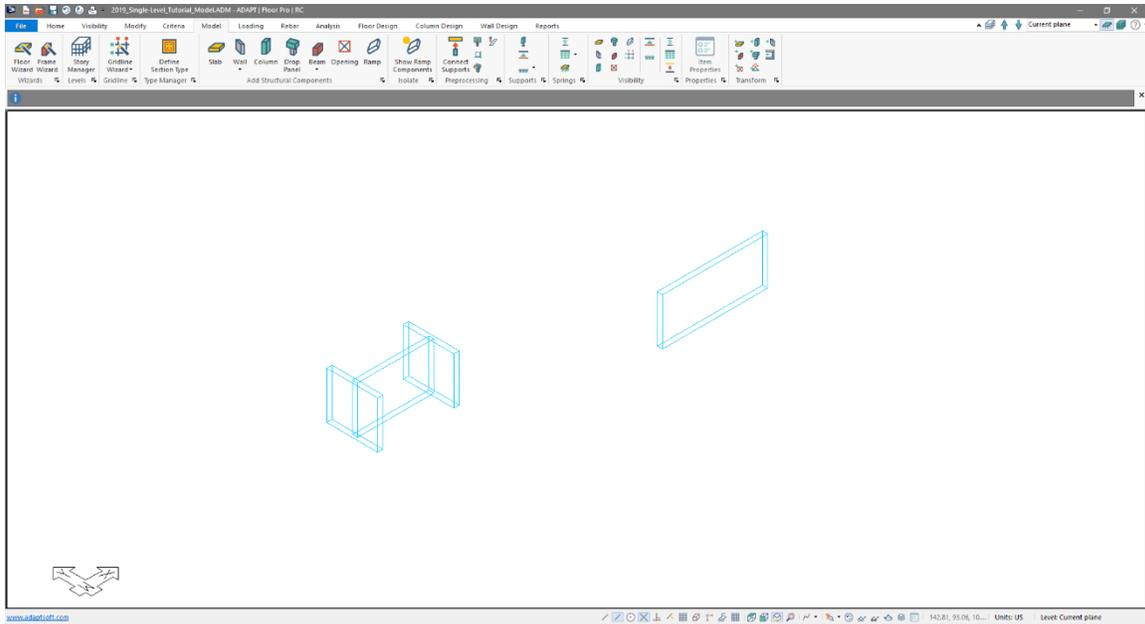

Figure 5-4
- The user should now see only the walls in the main graphical user interface as shown in **FIGURE 5-4**.